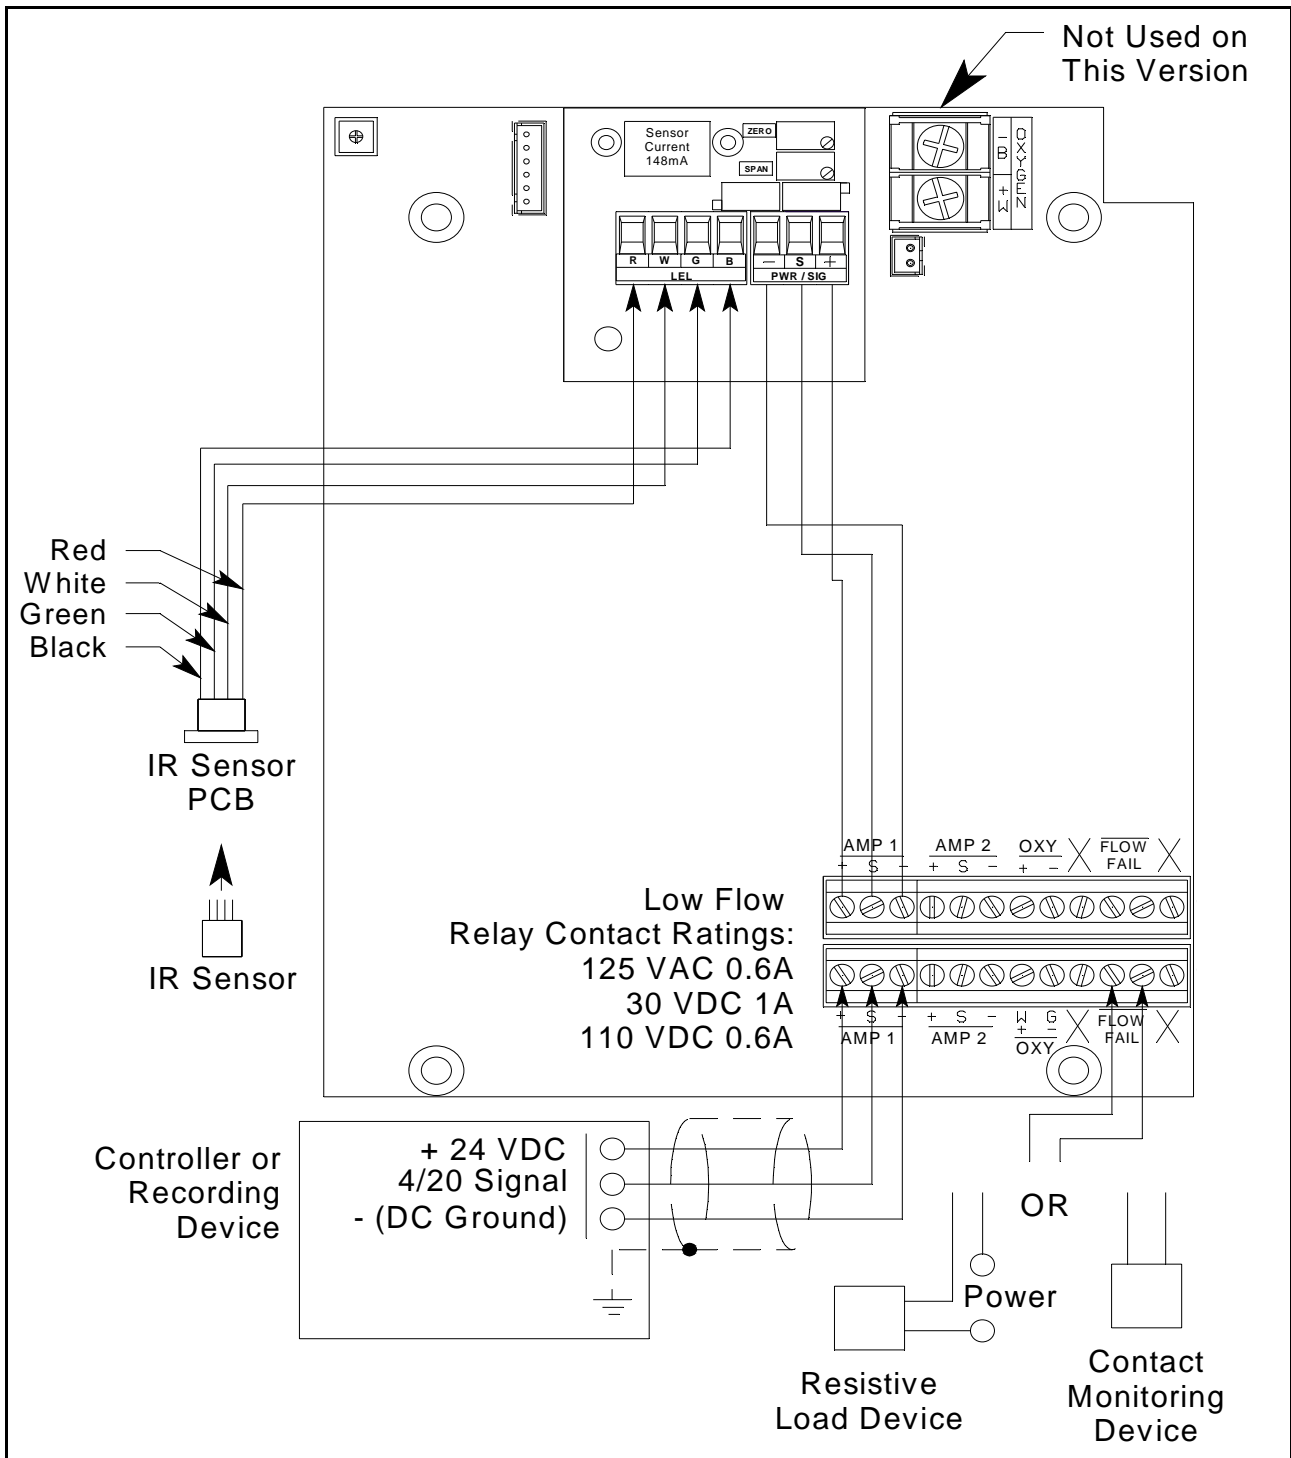

Figure 5: Wiring the Sample-Draw Detector to a Controller
5. Connect the cable to the sample-draw detector's interconnect terminal strip as shown in Figure 5.
8. Connect the wires to the applicable detector/transmitter terminal strip at the controller as shown in Figure 5. Refer to the controller operator's manual and the controller detector head specification sheet for the 35-3001A-01-XX1 for detector/terminal strip connections specific to the controller.